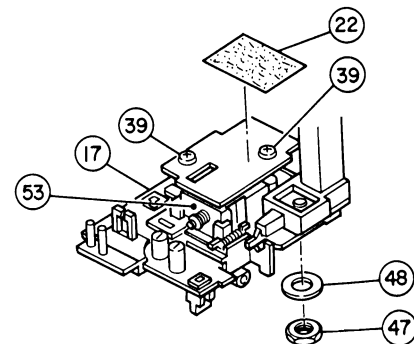

Figure 7
### (D) Removal of the Tone Arm (HD301) (Figure 7)
- Remove the sheet (22) located above the Sensor P. C. Board which is fastened to Bracket Assembly (17).
- Remove the 2 screws (39) that fasten the Sensor P. C. Board.
- Remove the solder from the terminal of the solenoid coil (53).
- Take off the hexagonal nut (47) and the washer (48), then remove the Tone Arm Assembly (HD301).